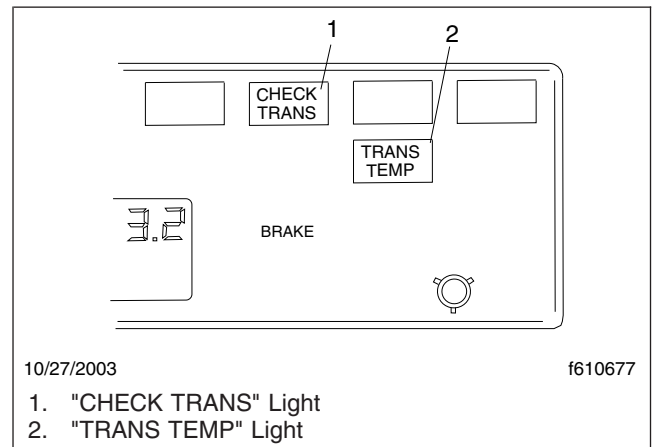

Fig. 8.14, Telltale Lights
1. With the parking brake set and/or the brake pedal pressed down, select neutral (N) by moving the selector switch to the center position.
2. With the transmission in neutral, turn on the ignition switch. The "CHECK TRANS" and "TRANS TEMP" telltale lights come on and go out again (bulb check). See Fig. 8.14.